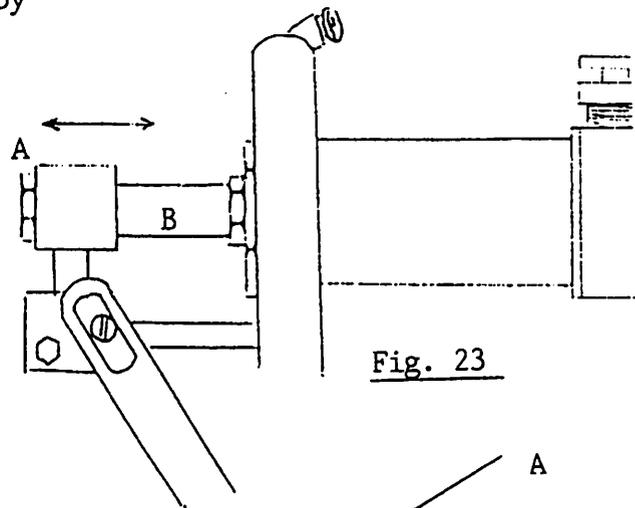

Fig. 23
- a) Counter blade stroke can be adjusted by loosening nut A Fig. 23 and turn cylinder shaft B. Tighten nut A securely after proper stroke is attained.